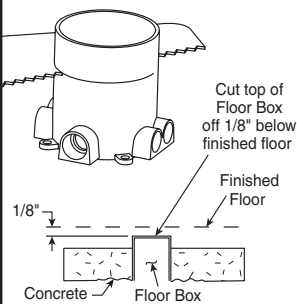

Figure B.4
- 1) Cut the top surface of the floor box or extension 1/8" inch below finished floor height (see Figure B.4 or B.6). Finished floor height is the top surface of the carpet, wood or tile floor.